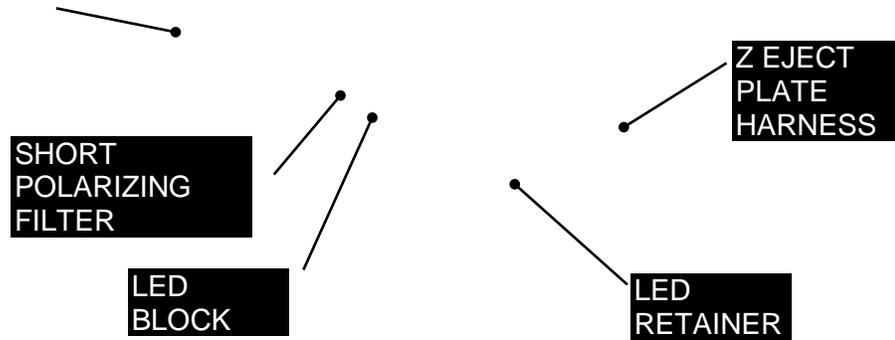

Figure 7-49: Proximity Sensor
1. Locate the LED (part of the Z Eject Plate Harness) into the LED Block with the counter bore facing outwards. Fit the LED and Block into the Eject Plate Slot and clamp in place using the LED Retainer using two M2x8 Cap Head Screws. Position the Proximity Sensor (part of the Z Eject Plate Harness) into the rounded groove in the middle of the Eject Plate, with the end of the sensor flush to the face of the Eject Plate as shown in Figure 7-49.